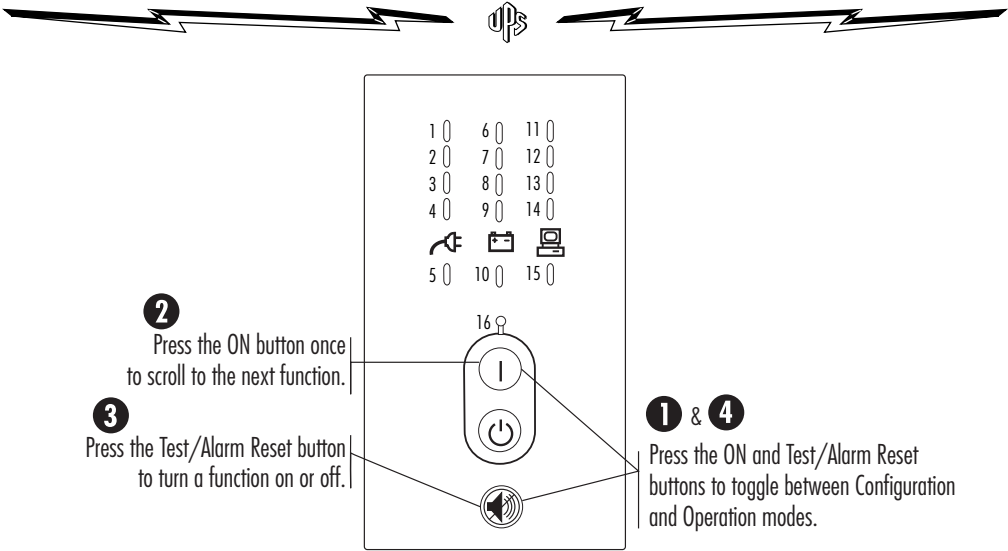

Figure 5. LED Function in Configuration Mode
You can change the functions after switching the UPS from Operation mode to Configuration mode. In Configuration mode the front-panel LEDs represent changeable functions, and the control buttons turn them on or off. Figure 5 shows the LED numbers, and Table 2 explains the functions.
2. Press the ON button to scroll to the function you want to change. The UPS beeps as you scroll through each function. The selected function (LED) blinks. Figure 5 shows how the LEDs are numbered. Table 2 describes the functions.